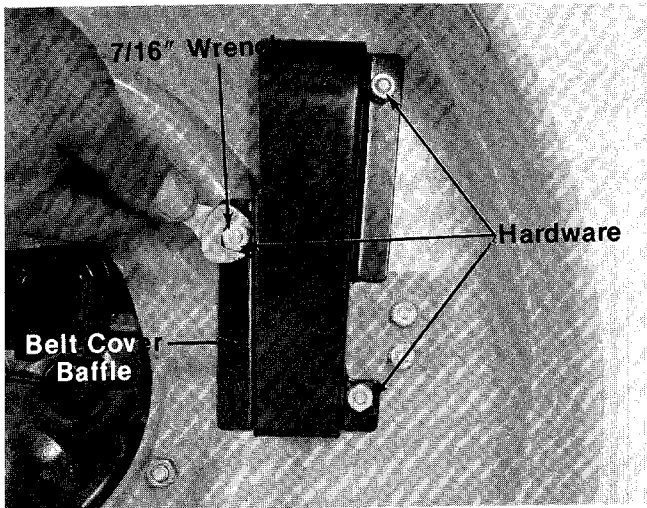

FIGURE 23.
- Remove the three hex bolts, lock washers and hex nuts from the belt cover baffle. A 7/16" wrench is required. See figure 23.